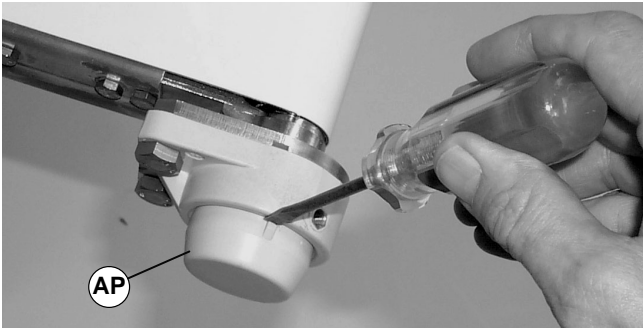

Figure 20
6. Remove bearing cover (AP of Figure 20) from drive end of conveyor.
7. Install bearing cover (AP of Figure 20) on drive end of conveyor.